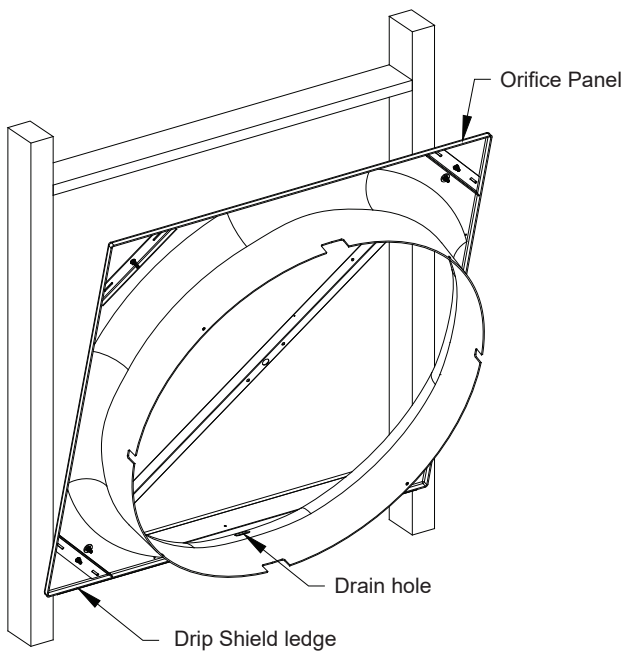

Figure 5A
Locate the Drain hole in the Orifice Panel. This is the bottom of the Panel. Set the bottom edge of the panel on the Drip Shield ledge and center the panel on the opening. Then secure the Panel to the wall using (16) Barn Screws (Not Provided). See Figure 5A and 5B.